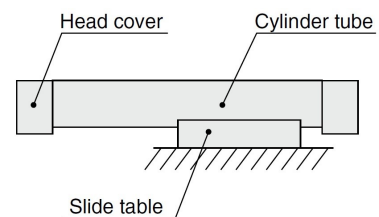

Fig. 5 Mounting in a cantilevered way
- Do not cantilever mounting as shown in Fig. 5. Deflection of the cylinder tube may cause malfunction.